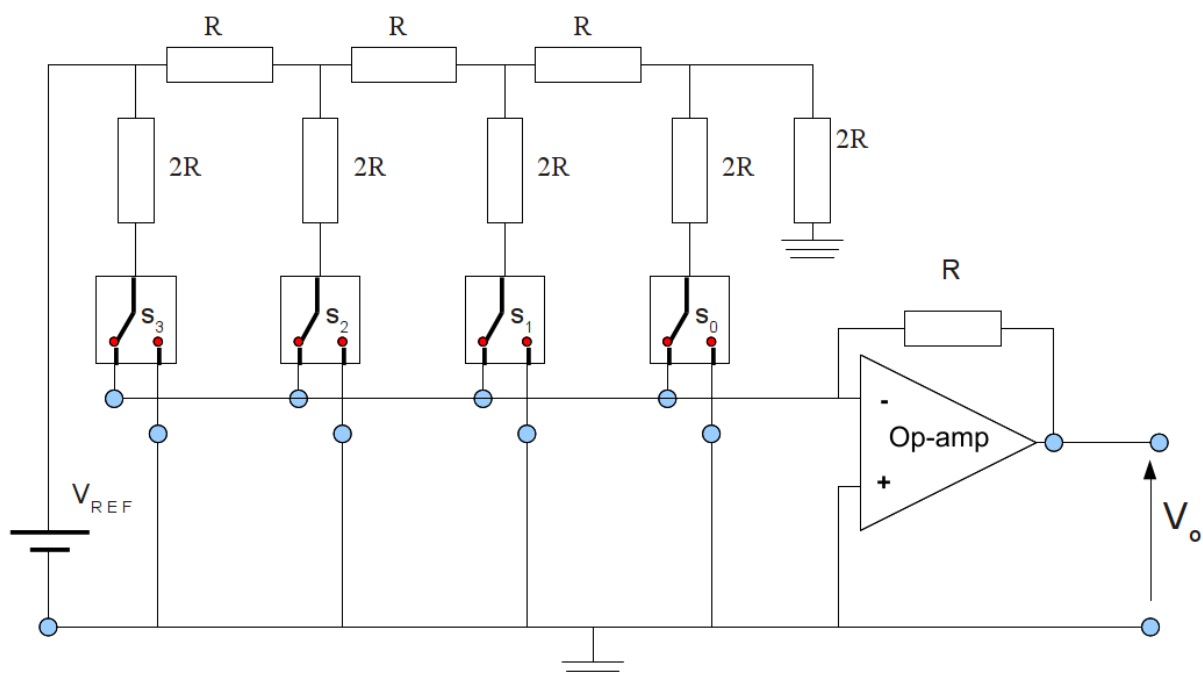

Figure 7: 4-bit DAC with R-2R ladder
- (a). Figure 7 shows a 4-bit DAC implemented using an R-2R ladder. Explain how the circuit operates and indicate where the digital input bits are applied.